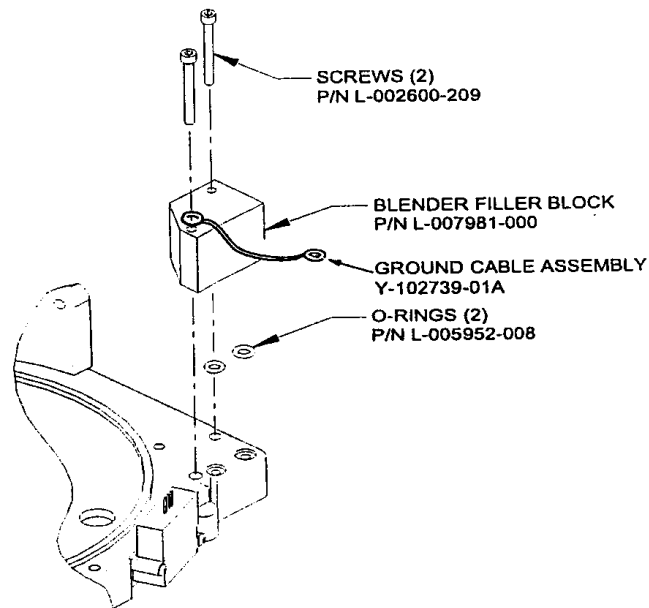

FIGURE 4-23.
1. Install and seat each of 2 O-rings (P/N L-005952-008) into 2 manifold blender ports. See Figure 4-23.
2. Orient and install the blender filler block (P/N L-007981-000) onto the manifold. See Figure 4-23.
3. Insert 1 screw (P/N L-002600-209) 6-32 x 1 1/4-in (31.75mm) through ground cable assembly (P/N Y-102739-01A) and blender filler block as shown in Figure 4.23. Secure the blender filler block to the manifold, using a Milwaukee battery-powered screwdriver set at "2" (or equivalent) with a 7/64-in hex bit to install screws until the screw heads just make contact with the blender filler block. Alternately tighten each screw with a torque driver set at 8 in-lbs (.904 N-m) with a 7/64-in hex bit.